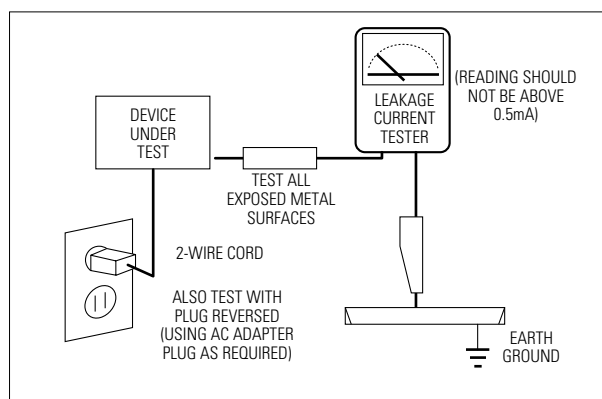

Fig. 1-1 AC Leakage Test
4. **Leakage Current Hot Check (Figure 1-1):**